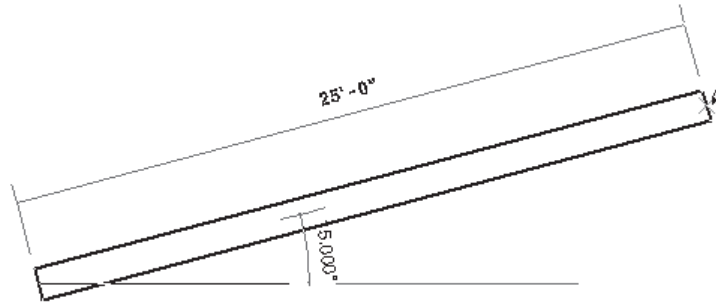

Figure 3-27 The angle and temporary dimensions are displayed on the wall being sketched
3. Choose **View > Zoom > Zoom-in-Region** from the menu bar or type **ZR** and zoom into the area to get a closer view of the sketched wall segment, as shown in Figure 3-27 (for zooming techniques, see Chapter 1- Introduction to Autodesk Revit Architecture 2009) Notice that the cursor moves in incremental values set in the **Snap** option. The angle subtended by the wall on the horizontal axis is also visible and keeps changing dynamically as you stretch the wall with the cursor.